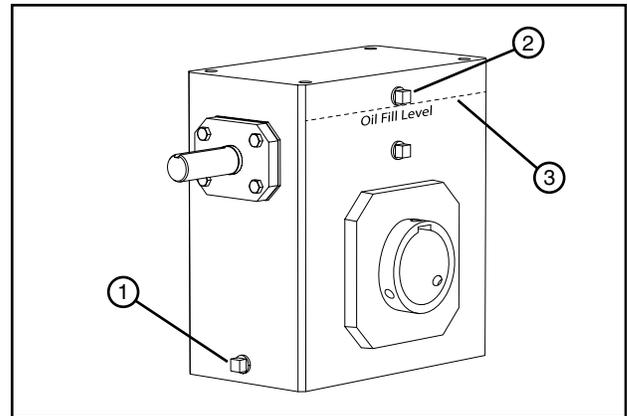

Figure 61-2 1. Drain Plug
4. Remove fill plug from gearbox. See Figure 61-2.
5. Fill gearbox with Valley gear lube to the fill line, approximately 2.5 gal (9.5 L), shown in Figure 61-2. Allow time while refilling the gearbox for the oil to equalize in the gearbox. DO NOT over fill.